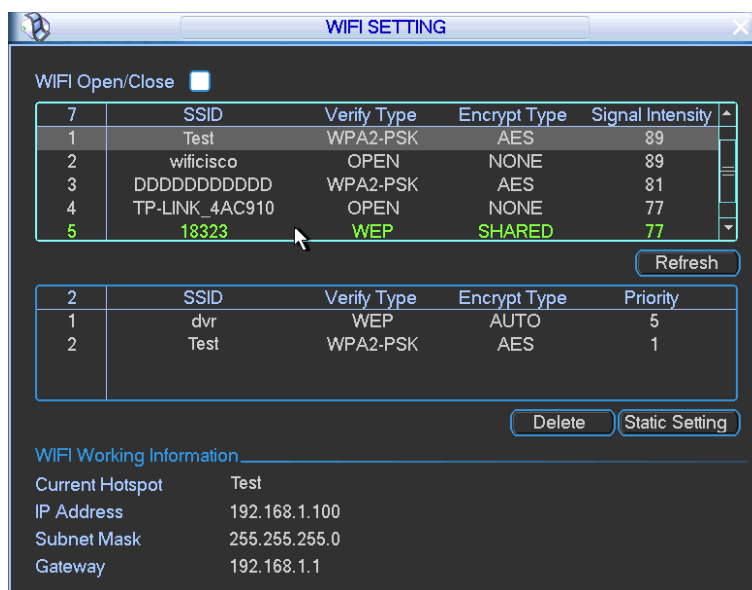

Figure 5-29
- WIFI working information: After system successfully connected to WIFI, you can view hotspot name, IP address, subnet mask, default gateway and etc. See Figure 5-29.